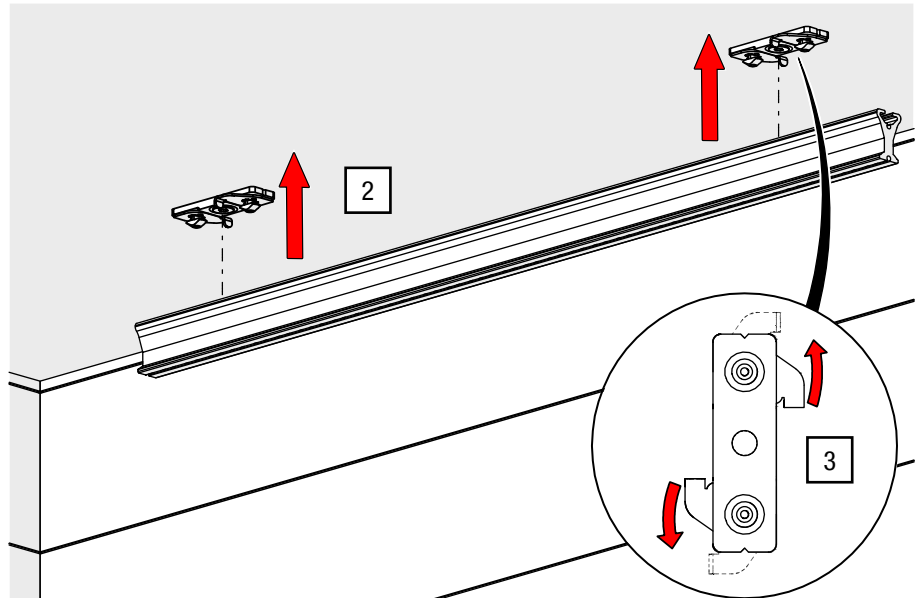

Fig. 32: Ceiling installation – Attach track to ceiling mount bracket
2. Lift the track and position it at the ceiling mount brackets in the final position (see Fig. 32).
3. Lock the ceiling mount brackets onto the track using the side handles (see Fig. 32).